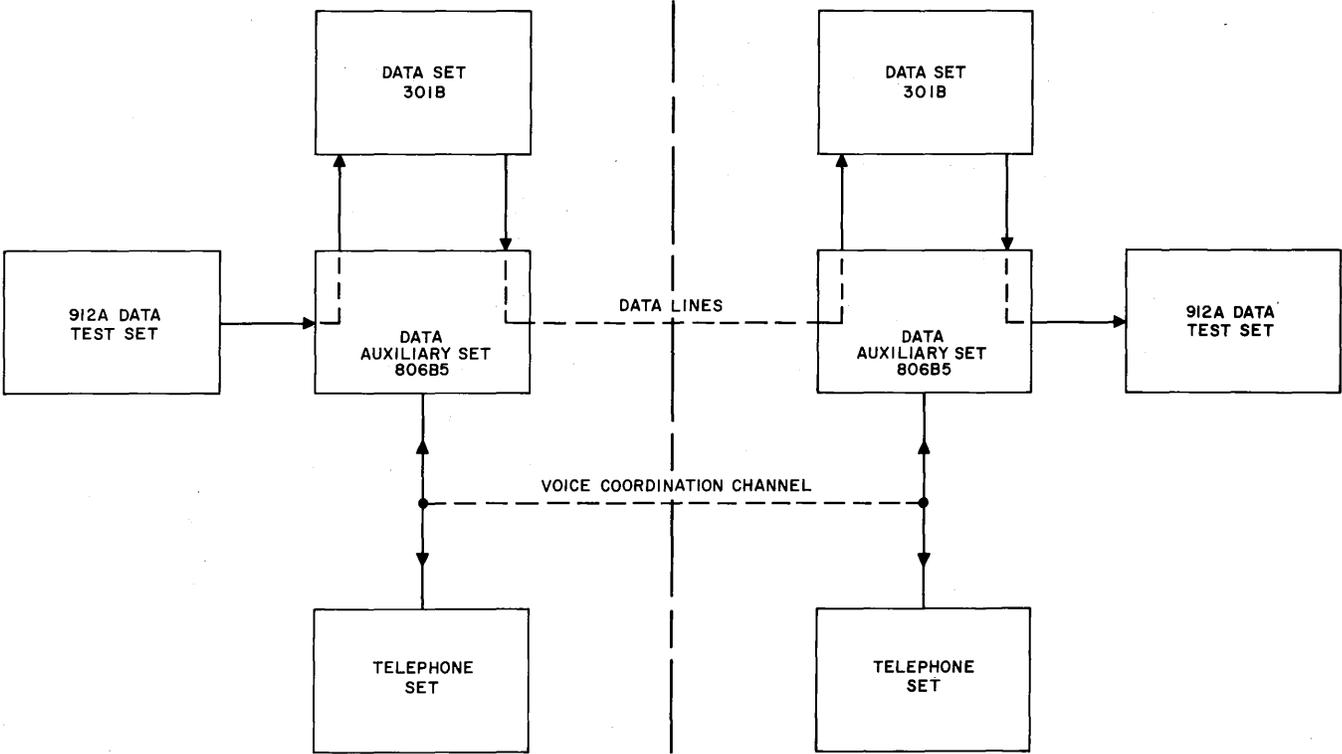

Fig. 9—End-to-End Test Using the 912A Data Test Set and Data Auxiliary Set 806B5, Block Diagram
- (3) In installations provided with a DAS 803A, disconnect the business machine cord from the CUST EQUIP connector. Connect the 912A DTS to DS 301B by using the BURNDY connector cable provided. In installations provided with DAS 806B5, disconnect the business machine cord from the customer interface connector on DAS 806B5. Connect the 912A DTS to the DAS 806B5 by using the BURNDY connector cable provided. Refer to Fig. 9 and 10 for block diagrams of the end-to-end test setup.
- (4) Connect the power cord on the 912A DTS to the 117-volt ac receptacle. Turn the POWER switch to ON.